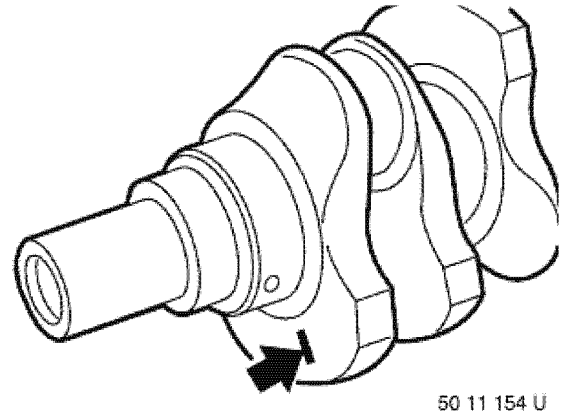

Figure 5-115
- 1- Locate and record the grinding size of crankshaft (**Figure 5-115**).